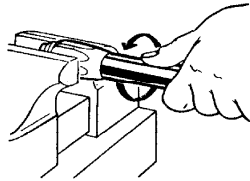

Fig. 2
2. Liberally lubricate hose cover with Aeroquip hose assembly lube. Place socket in vise and turn hose into socket counterclockwise until it bottoms. **NOTE:** When assembling long lengths of hose, it may be preferable to put hose in vise just tight enough to prevent from turning, and screw socket onto the hose counterclockwise until it bottoms. (See Fig. 2)
3. Put socket in vise. Screw hose into socket counterclockwise until it bottoms out. When assembling long lengths of hose, it may be preferred to put hose in vise just tight enough to prevent from turning and screw socket onto the hose counterclockwise until it bottoms. (See Fig. 2)